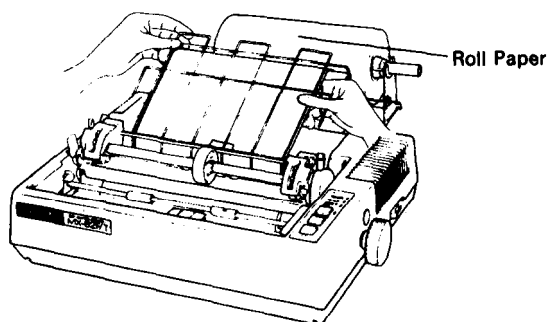

Fig. 37 Loading of Roll Paper (2)
6. Push the paper into the insertion slot between the paper guides at the rear part of the printer mechanism. (See Fig. 37)